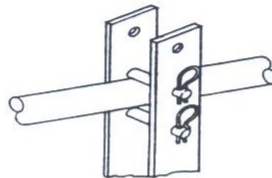

fig. 3
1. You can secure the handle in the front or rear position as well as adjust for height with the clevis pins (item #78, pg. 15) and hair cotters (item #79, pg. 15) provided as shown in figure 3.
3. Select the desired handle location for the job. Remove the hair cotter and the clevis pin (items #78, #79, pg. 16). Swing the handle (item #14, pg. 16) over to convert the stump cutter to a front or rear cutter. If the stump is close to a building or fence, have the cutter head in front. If the stump is in the open, you may find it is easier to chip with the cutter head in the rear. You can also change the height of the handles by positioning the clevis pin in one of several locations. Always secure the clevis pin with the hair cotter pins. (Figure 3 pg. 6).